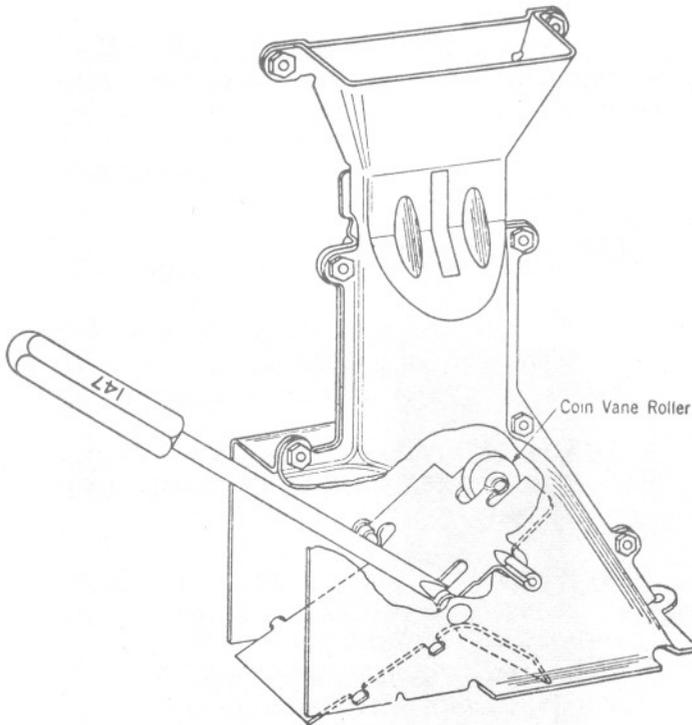

Figure 12
- (1) Remove coin trap (see Paragraphs 5.09 and 5.10).
- (2) Remove coin shield (see Paragraph 5.11).
- (3) Remove shoulder screw coin vane bearing from front of hopper and remove coin vane through slot in front of hopper.
- (4) If vane is in good condition, it may be re-used. If necessary, free coin vane roller with KS-7860 petroleum spirits. Clean vane thoroughly using KS-2423 cloth moistened with petroleum spirits. Vane shall be replaced if not in good condition.
- (5) When remounting coin vane, assure that lock washer is under head of the bearing screw. Check vane and hopper clearance as in Paragraph 5.02.
- (6) If vane scrapes on front of hopper, place No. 147 tool or equivalent, such as a No. 35 tool or KS-6854 screwdriver, as shown in Figure 12 and adjust front bearing outward by turning tool slightly. If vane scrapes against back of hopper, adjust rear bearing outward as described. In adjusting vane, be careful not to introduce any binding at bearings.
- (7) If vane binds at front bearing, place No. 147 tool or equivalent between coin vane and back wall of coin hopper and turn tool slightly. Tool should be placed about opposite coin vane pin in order not to produce burrs on coin vane or on shoulder of